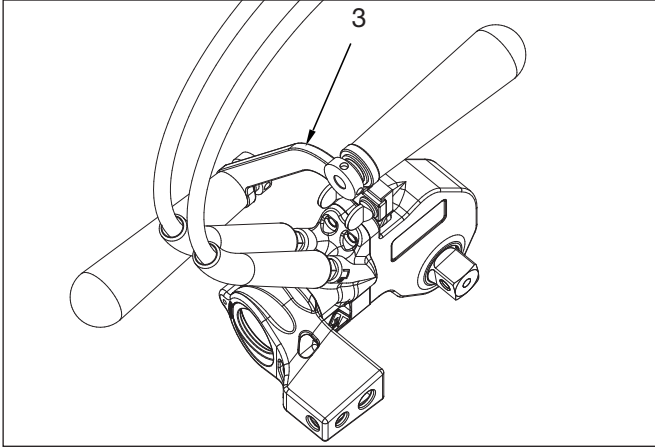

Figure 1: Sq. Dr. Handle Configuration 1
1. Remove drive unit & cassette top two bolts (same location as (2)).
2. Install bracket (1) on tool.
- a. Use longer bolts (2) - included.
- c. Torque bolts (2) to "Short Bolt" manual specification (Table 1).
3. Assemble thin hex head nut (6) to handle (5).
- a. Use thread lock (10) on handle's stud & thin hex head nut
4. Position steel handle (3) properly (refer to Figure 1, 2, 4, or 5), away from reaction foot (or flange for a hex wrench).
5. Assemble handle (3) to bracket (1) with thumb screws (4).
6. Position handle (5) per desired configuration (refer to Figure 1, 2, 4, or 5) & assemble to handle (3) with flat washer (7), lock washer (8), & knurled nut (9)
2. Hold plastic handle (5) & remove fasteners ((7), (8), & (9)). Set to side.
3. Hold handle (3) & remove thumb screws (4).
4. Move handle (3) to other side of wrench & install thumb screws (4).
5. Properly position handle (5) (refer to Figure 1, 2, 4, or 5) & assemble to handle (3) with fasteners ((7), (8), & (9)).